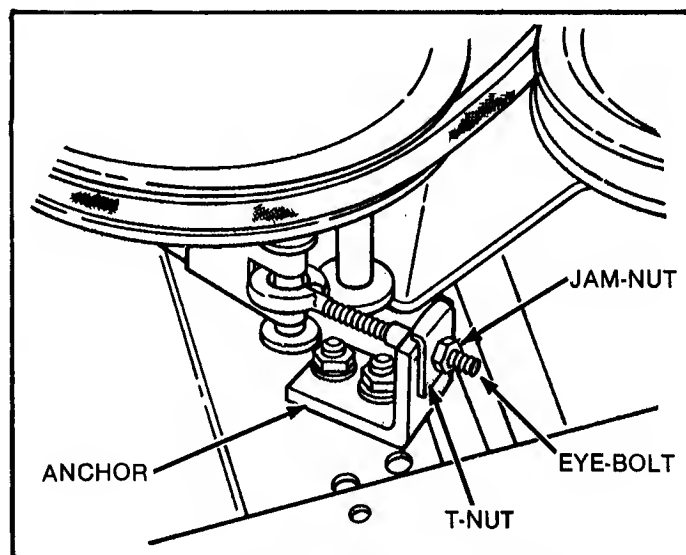

FIG. 9 — BLADE BRAKE ADJUSTMENT
The blade brake compensates for wear. As the brake band wears, the blade control lever will gradually stop further rearward in the slot of the cover. Brake adjustment is required when the lever touches the rear of slot or when the blade takes more than 3 seconds to stop. A 7/16" wrench is needed for this procedure. The adjusting point is shown in figure 9. The adjustment is made with the engine stopped as follows.
**STEP 2:** While holding the blade lever firmly in the rearward position, loosen the jam-nut on the end of the eye bolt (figure 9).